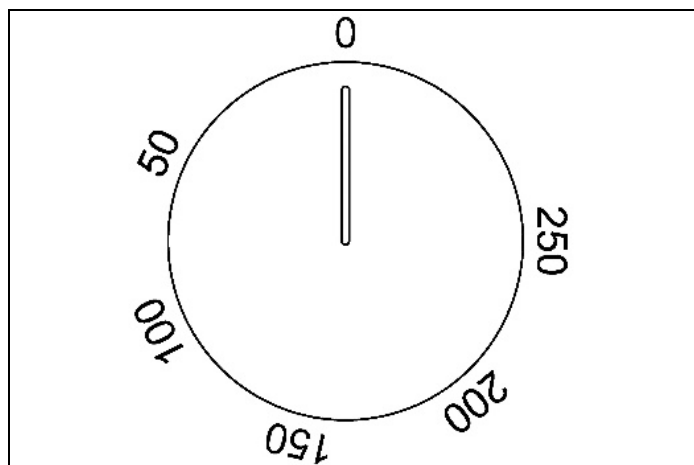

Fig. 20
Turn the knob (Fig. 20) clockwise to align the required temperature on the collar of the knob with the screen-printed scale on the fascia panel. When the thermostat is tripped the orange light comes on; it will go out when the temperature inside the oven reaches 10 °C above the set value and illuminate again when it drops 10 °C below the set temperature. The thermostat is only able to operate the oven heating elements if the switch with which it is combined is turned to one of the possible heating element operating modes; if the switch is on 0, the thermostat has no effect on the oven heating elements, which remain off.
- Turn the temperature knob (Fig. 20) clockwise to select the temperature required. The orange light goes out once the oven has heated to the chosen temperature and is ready for use. It is normal for this light to switch on and off during cooking, as the heating elements operate to keep the temperature constant. (Operation of the oven is indicated by the programmer display)